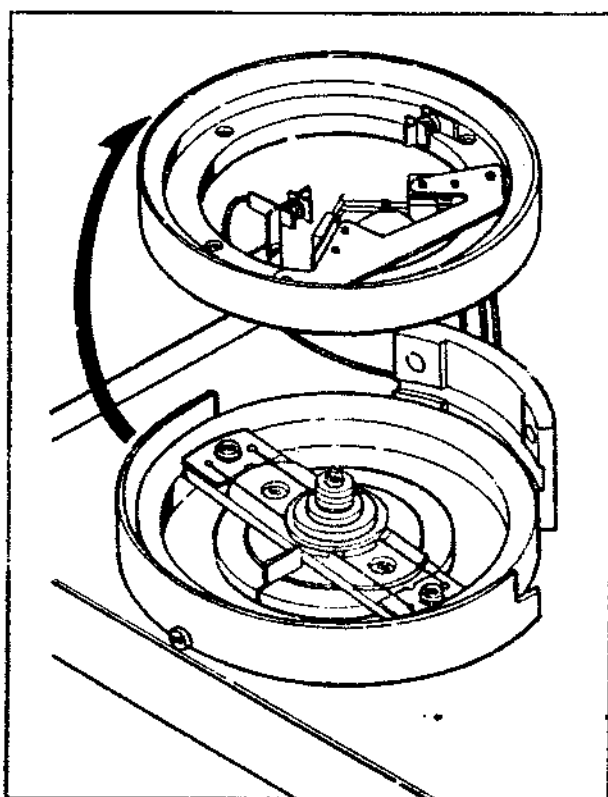

Fig. 4-5. Video head assembly removal
4. Carefully lift the top of the drum assembly and hold it back. Place the drum top carefully on the reel panel. See Fig. 4-5.